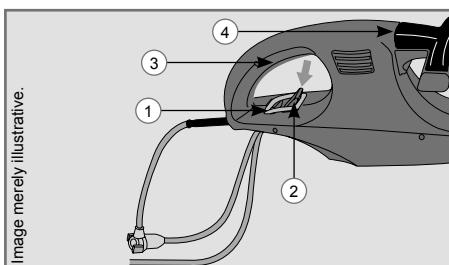

Fig. 1
- ✓ Bend the extension cord and pass it through hole (1), then fit it in clamp (2) (Fig. 1).
- ✓ **Switching on** - Press the dual power on/off switch (3 and 4) (Fig. 1).